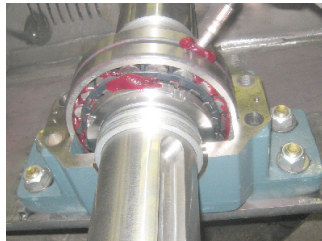

Figure 2
8. Manually work new grease into existing bearing while slowly turning the bearing and remove the old grease as it gets pushed out by the new grease. See Figure 2.